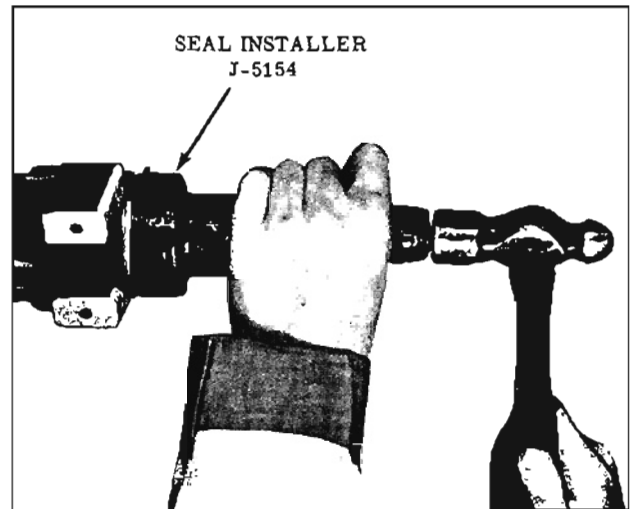

Fig. 7-6 Installing Rear Bearing Retainer Oil Seal
3. Drive seal into the rear bearing retainer using Seal Installing Tool J-5154 until seal is fully seated. (Fig. 7-6)